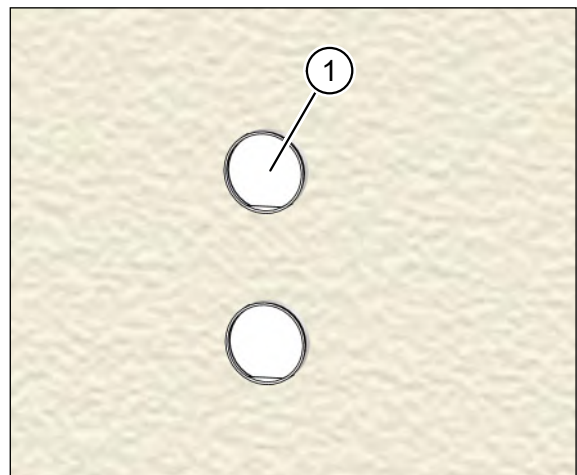

Fig. 32: Installation kit plastered on the outside
- ▶ Remove the two protective sleeves (item 1 in Fig. 32).